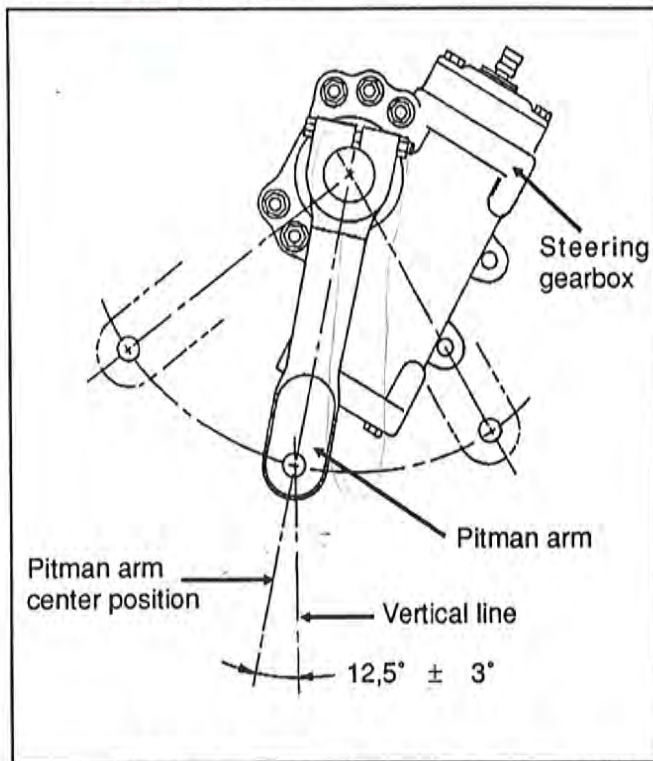

FIG. 7 - Pitman arm adjustment
2. Using a protractor, check the angle of the pitman arm (refer to figure 7 for details).